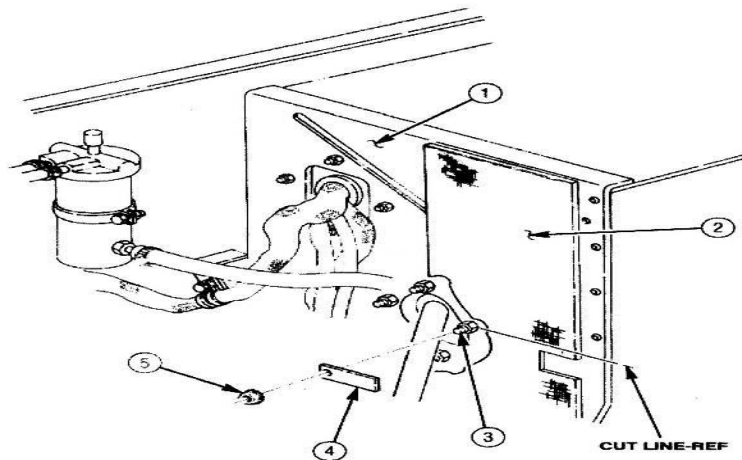

Figure 20
(3) Remove nut (5) and strap (4) supporting insulation (2) from screw (3) on left inner cowl (1). Discard nut (5) and strap (4). Refer to TM 9-2320-387-24-1, Chapter 3 and Figure 20.
(4) Mark and remove section of insulation (2) from left inner cowl (1). Discard removed insulation (2).